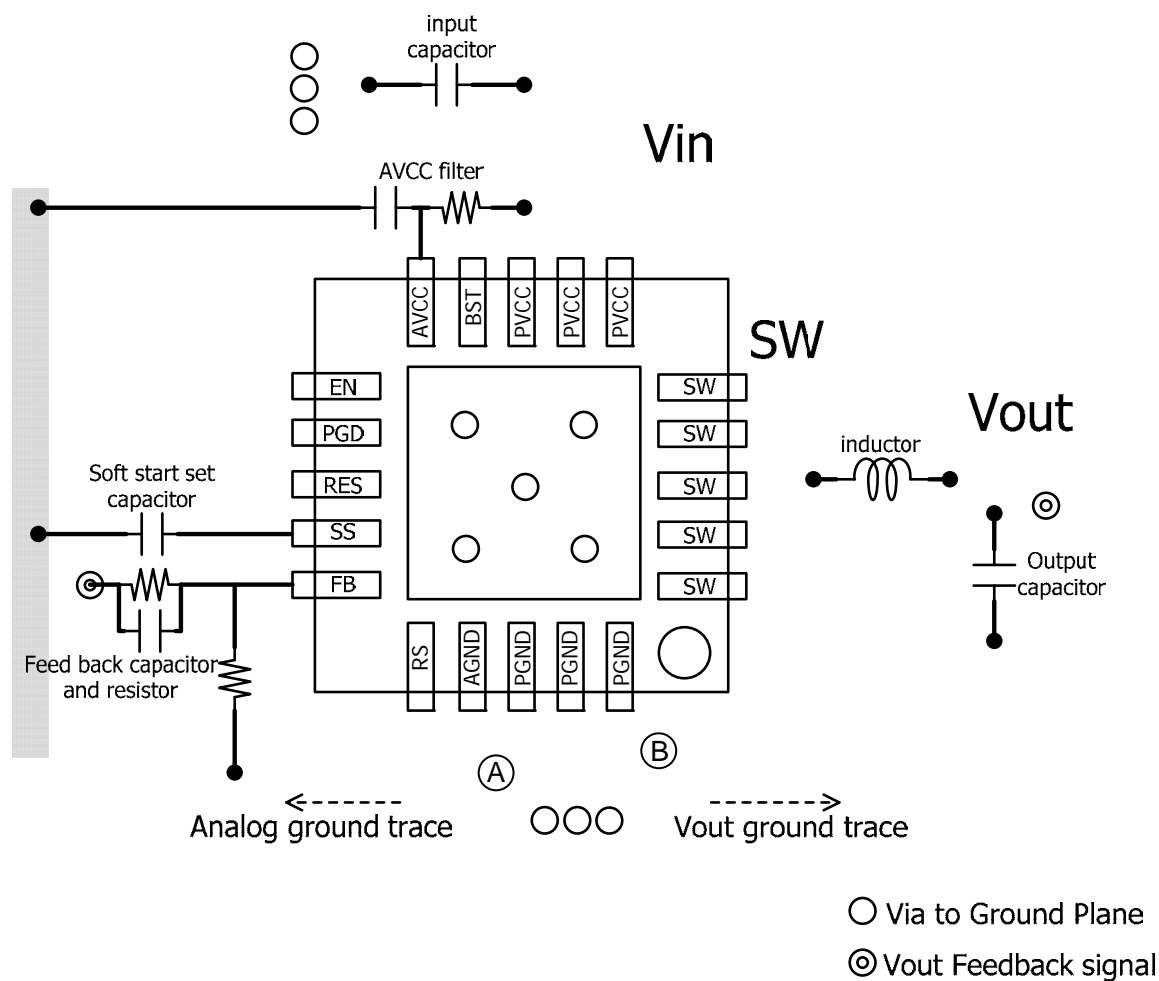

Figure 46. PCB layout
Ground sense interconnection should be carefully placed as input capacitors generate a large transient current. Connect analog ground pin, AGND, to ground plane at point (A) as shown in Fig.46 to prevent high current from passing through the analog ground trace. Vout ground, which carries a transient current, should be connected to ground plane at point (B).